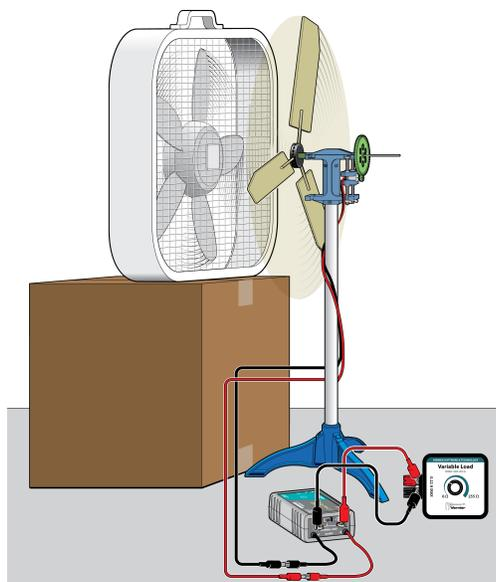

Figure 4
- d. Position the fan and wind turbine as shown in Figure 4. Align the center of the fan with the center of the turbine hub. Measure the distance between the fan and the turbine hub and ensure that the distance remains constant throughout the experiment.